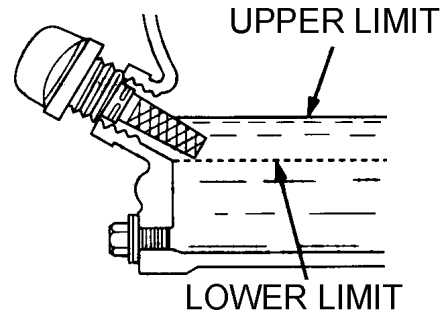

Figure 10. Engine Oil Dipstick(Oil Level)
4. If the oil level is low (Figure 10), fill to the edge of the oil filler hole with the recommended oil type (Figure 10). Maximum oil capacity is 1.16 quarts (1.1 liters).